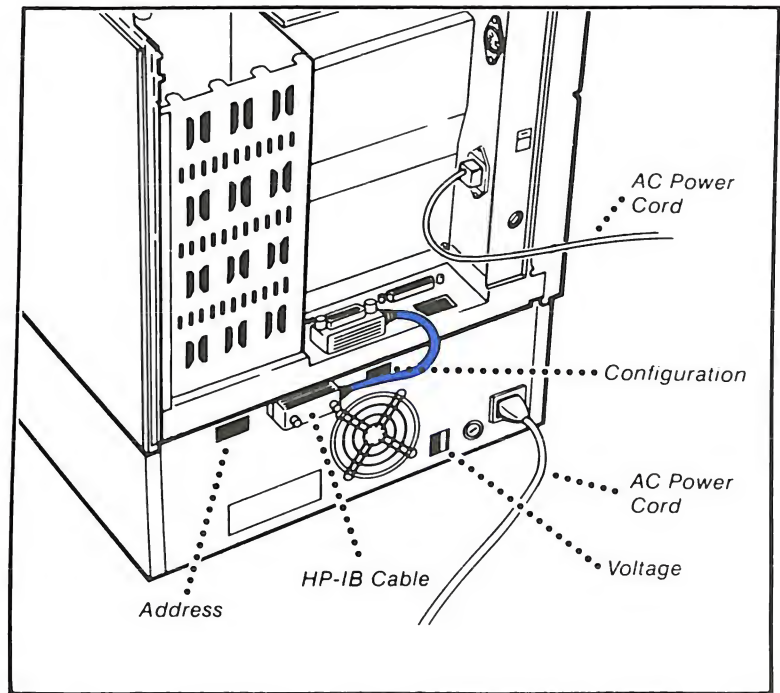

Figure 5-9. Display Unit and HP 9133H Connected
4. Connect the HP-IB cable to the display unit and the disc drive, as highlighted in blue in Figure 5-9. Notice that the cable ends are different. The picture shows which end goes to which plug. (The connection points are labeled HP-IB on the back panels of the disc drive and display unit.) Using your fingers, secure the cable by tightening the screws on each cable end to the connection.